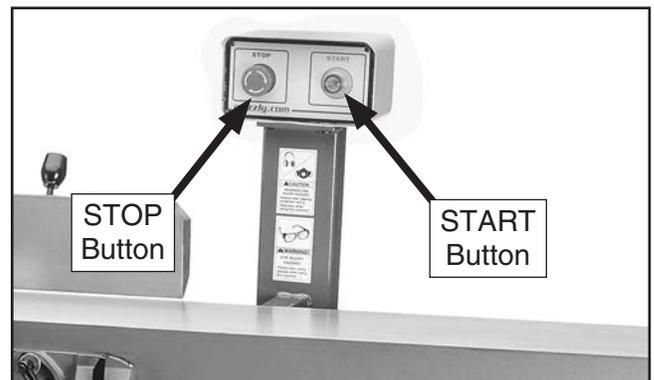

Figure 36. STOP/START button locations.
2. Push STOP button in (see **Figure 36**).